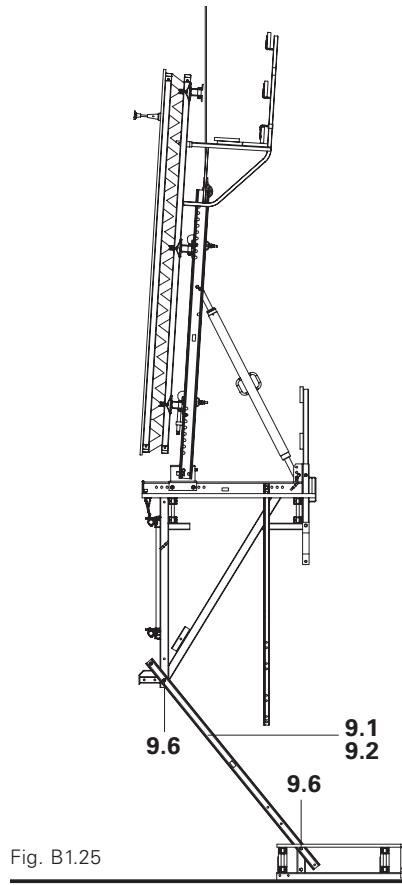

Fig. B1.25
4. Bolt Platform Post 225 (9.1) to post extension 180 (9.2) and fix to the bracket and finishing platform at an angle with bolt (9.6). (Fig. B1.25)